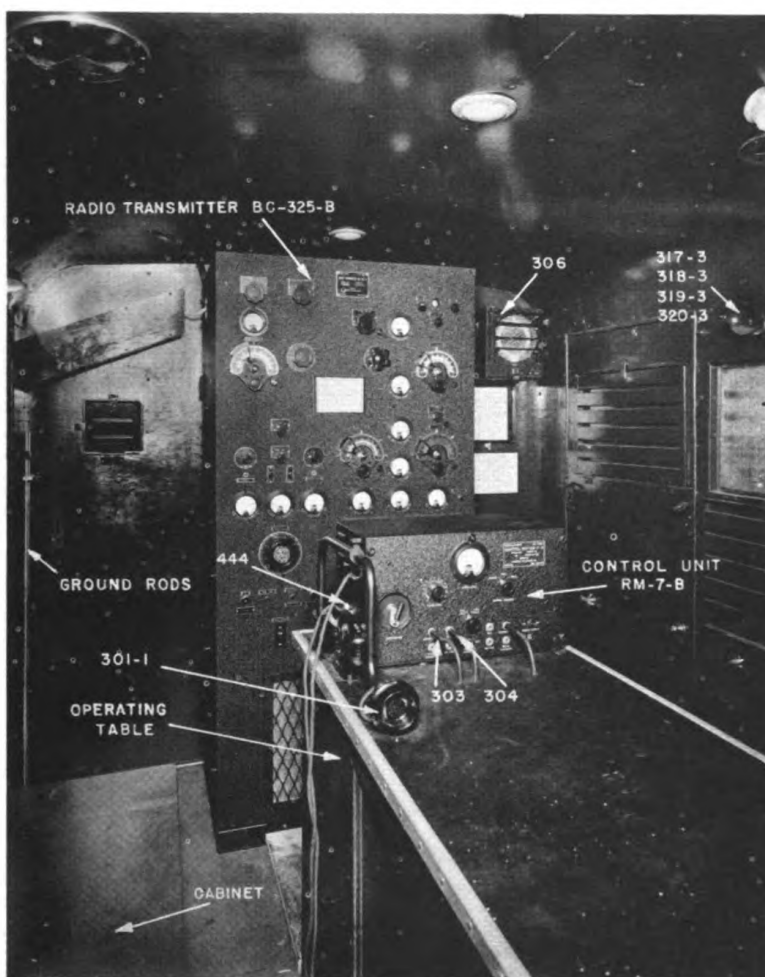

FIG. 7 INSTALLATION IN TRUCK, VIEW LOOKING TOWARDS FRONT
(1) A ventilating unit is mounted to the right of the radio transmitter on the cab body partition as seen in Fig. 7. This unit incorporates a 1500 watt heater unit and fan. It is possible to run the fan alone, but under no circumstances can the heater be operated without the fan,
The installation of the transmitting components is seen in Figs. 7 and 8. The square, wood cover over each rear wheel well on either side of the truck has a hinged top. These serve as benches for the operating table and also for storage chests. An additional cabinet is built under